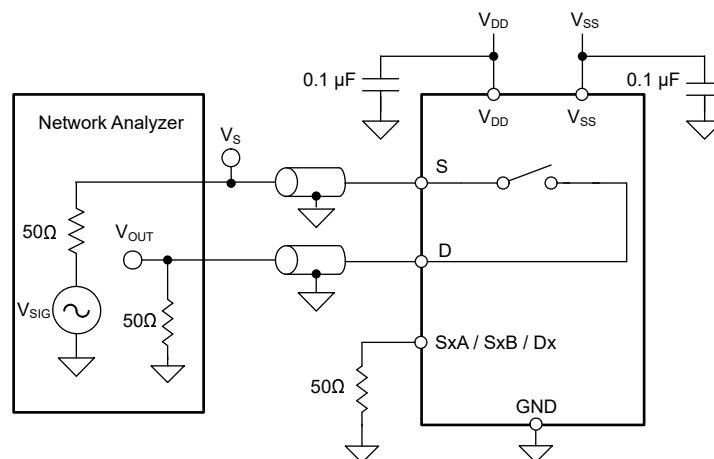

図 6-10. Off Isolation Measurement Setup
Off isolation is defined as the ratio of the signal at the drain pin (D) of the device when a signal is applied to the source pin (S_x) of an off-channel. 図 6-10 shows the setup used to measure, and the equation used to calculate off isolation.